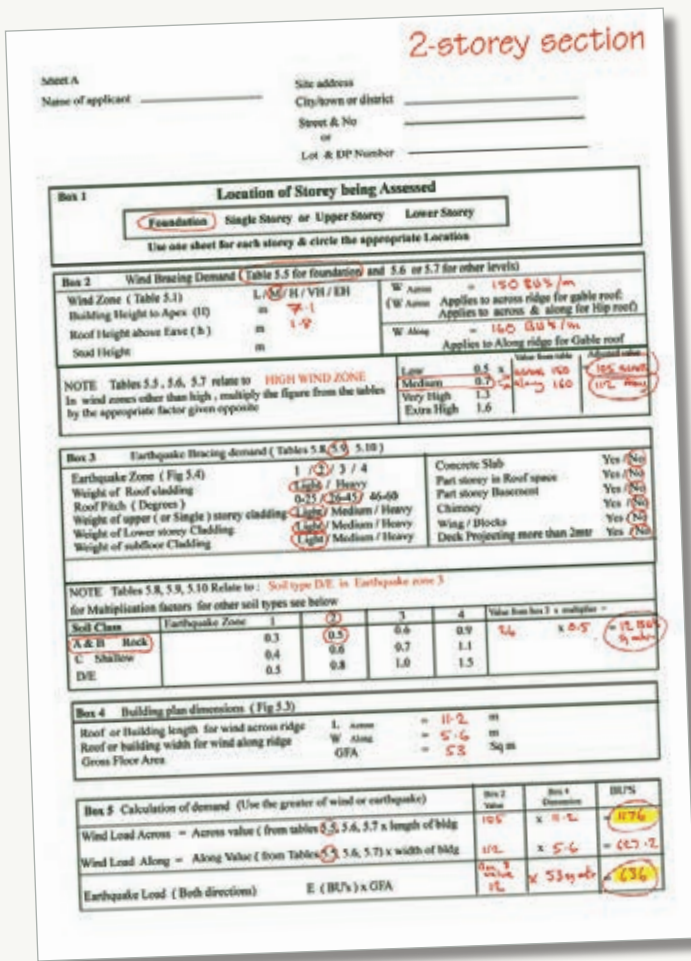

Figure 4 Calculation sheet for demand – 2-storey section of subfloor.
Transfer these values to the calculation sheets (Figures 4 and 6).
The above data is then entered into bracing calculation sheets to obtain the bracing demand (see Figures 4 and 6). Sheets can be downloaded from the Toolbox on the BRANZ website www.branz.co.nz.
Using the calculation sheets (see Figure 4), bracing demand for the 2-storey section is:
- This meets the minimum demand requirements from the calculation sheet (see Figure 4) and NZS 3604:2011 clause 5.5.2.
Note Having trouble reading Figures 4–7? You can download these with this article from www.branz.co.nz/welcome_to_build_then_Design_Right.